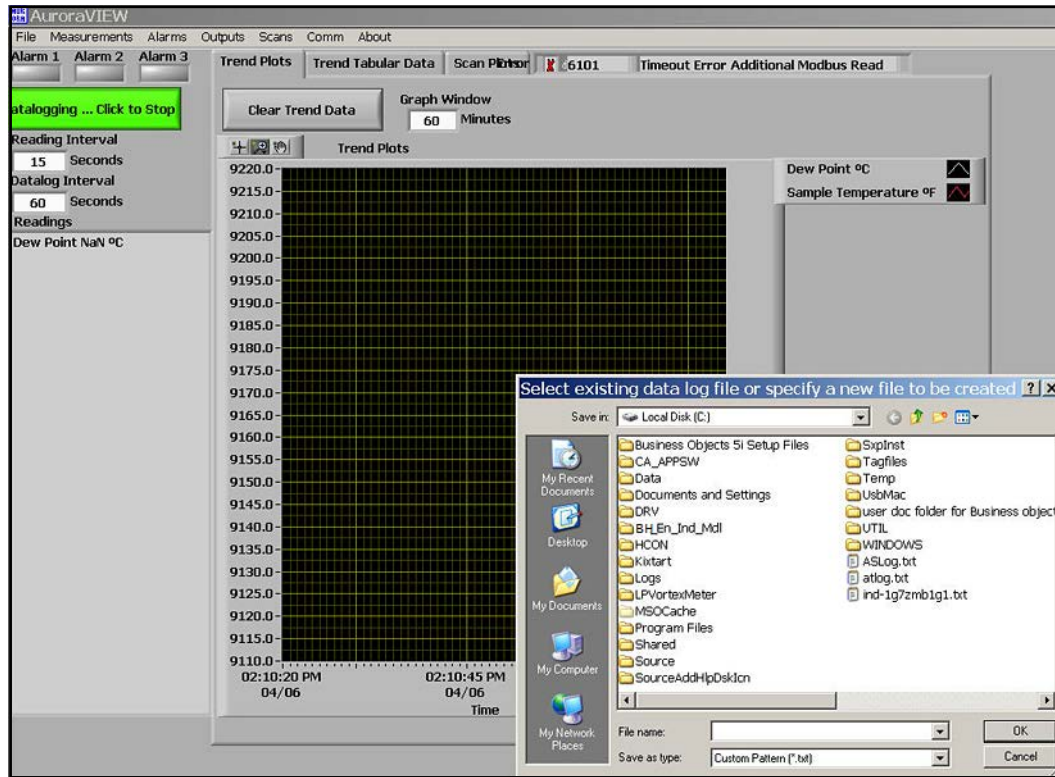

Figure 41: Datalogging with AuroraView
1. In the main view (see *Figure 41* below), click on the button Click to Datalog.